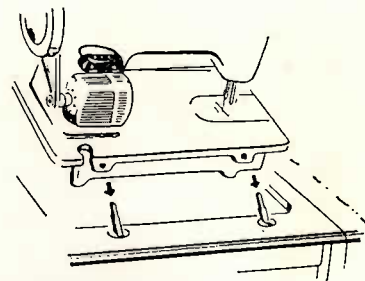

Fig. 1
- 1) Loosen the two hinge screws under the holes in the rear edge of the machine bed (Fig. 1).